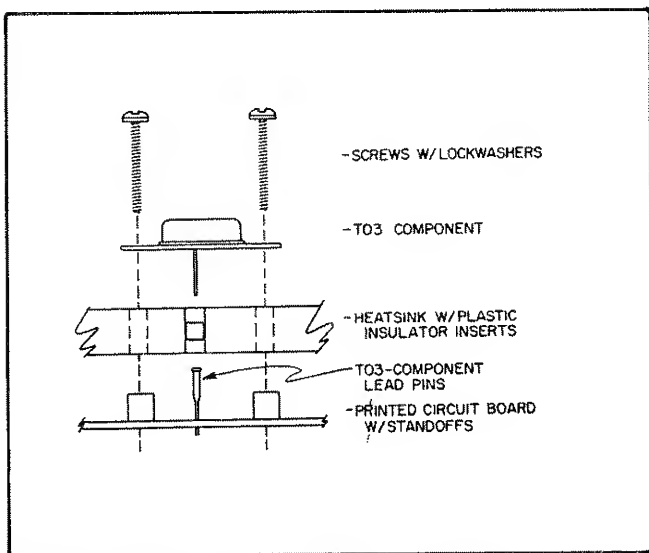

Figure 5-13. TO3 Components (A3Q1, A3Q2, A4Q1) Mounting
d. Before re-assembly of FET board, ensure that plastic insulators for FET leads remain in heatsink. Figure 5-13 shows TO3 component mounting.
e. Before re-assembly of output diode board, ensure that plastic insulators for Q1 leads remain in heatsink. Figure 5-13 shows TO3 component mounting.